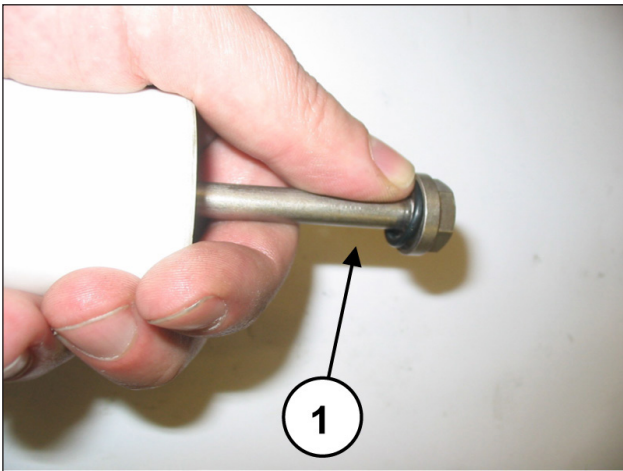

Fig. 46
**At every disassembly, all O-rings on the piston unit must be replaced (Fig. 46, pos. ①).**